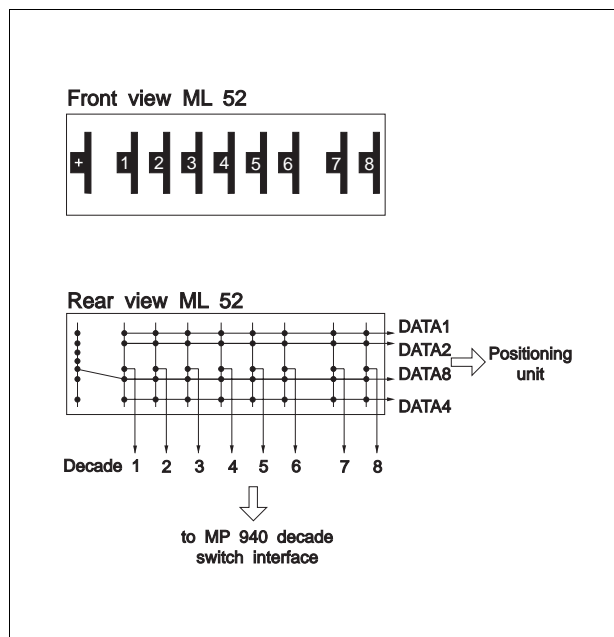

Fig. 6-3 ML 52 decade switch block wiring
The decade switch block is wired and connected in the circuit as evident in figures 6-3 and 6-4.
2. In case the ML 52 decade switch block is used, this must be connected to the positioning unit and MP 940 as shown in fig. 6-3.